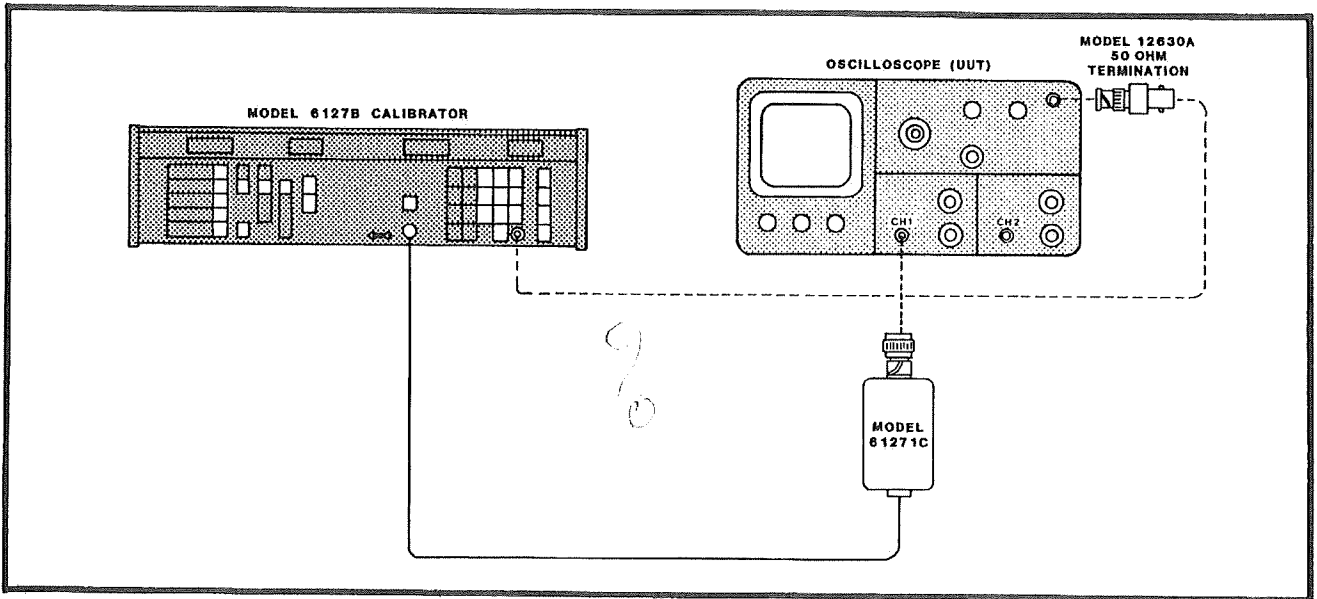

Figure 3-6. Volts/Div Measurement, Equipment Set-Up
a. Connect the equipment as shown in Figure 3-6.
a. Connect the equipment as shown in Figure 3-6. (Refer also to Table 3-7.)